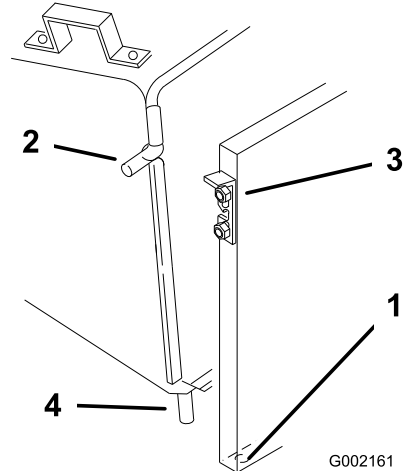

Figure 8
6. Lift the latches and slide the frame side pins into them (Figure 8).
5. Insert the lower pins of the bagger frame into the holes in the back plate (Figure 8).
4. Insert the lower pins of the bagger frame into the holes in the back plate (Figure 8).
5. Lift the latches and slide the frame side pins into them (Figure 8).